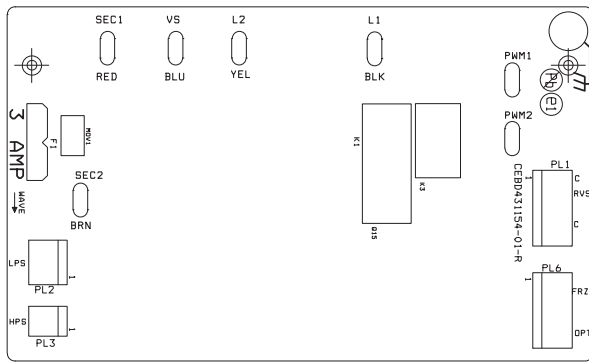

Fig. 25 – ODU Board
A green LED (COMM light) on the ODU (see Fig. 25) indicates successful communication with the other system products. The green LED will remain OFF until communication is established. Once a valid command is received, the green LED will turn ON continuously. If no communication is received within 2 minutes, the LED will be turned OFF until the next valid communication.
- **230V LINE (POWER DISCONNECT) DETECTION:** The control board input terminals labeled VS and L2 (see Fig. 25) are used to detect compressor voltage status and alert the user of potential problems. The control continuously monitors the high voltage on the run capacitor of the compressor motor. Voltage should be present any time the compressor contactor is energized and voltage should not be present when the contactor is de-energized.
- **NO 230V AT COMPRESSOR CONTACTOR:** If the compressor voltage is not sensed when the compressor should be starting, the appropriate contactor may be stuck open or there is a wiring error. Another cause could be a faulty open-loop valve if the end switch is field wired per Fig. 20. The control will flash the appropriate fault code. Check the contactor and control box wiring. Refer to Table 16 and Fig. 25.